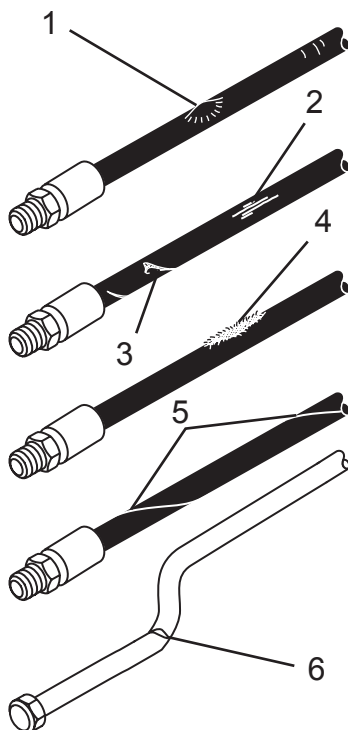

Figure 3
- Bulging (Figure 3, Item 1)
- Cracking (Figure 3, Item 2)
- Cuts (Figure 3, Item 3)
- Abrasion (Figure 3, Item 4)
- Twisting (Figure 3, Item 5)
- Bending (Figure 3, Item 6)